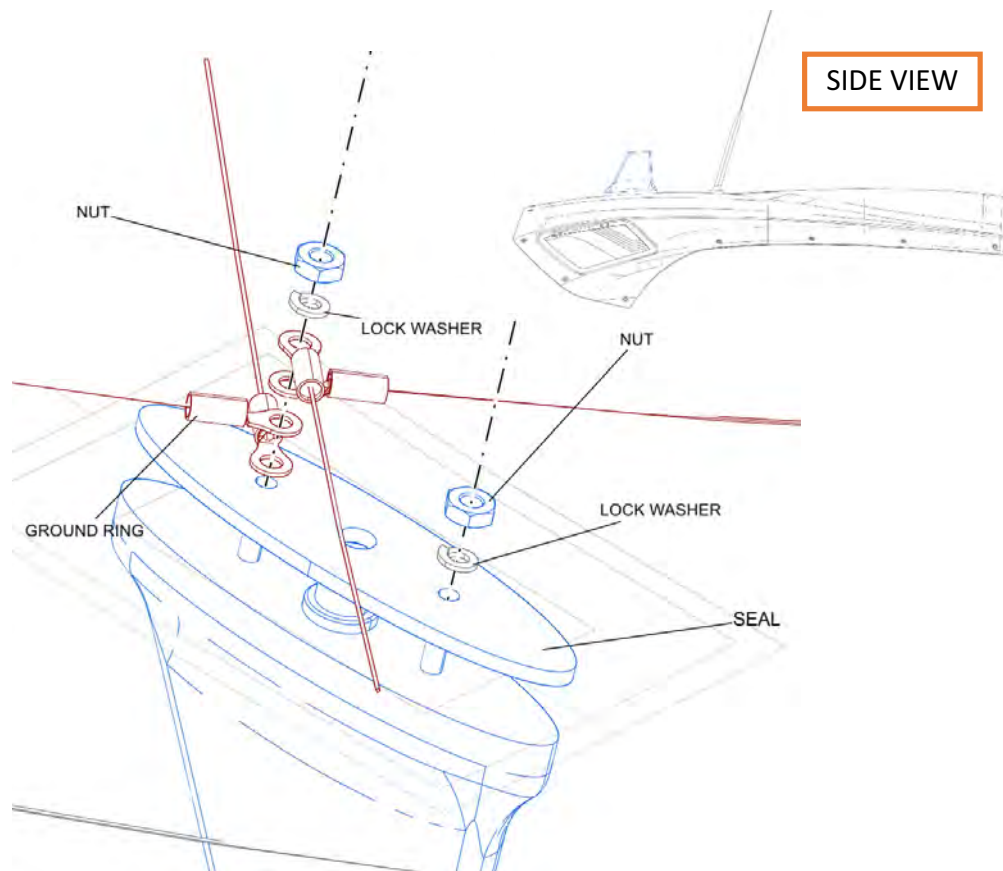

FIGURE 13-20
10. Position antenna on cowl with studs inserted in the noted holes. Ensure antenna is oriented as shown in Figure 13-20. Secure the noted stud using lock washer and nut (both included with antenna).